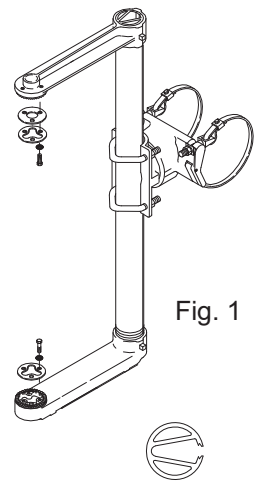

Fig. 1
1. **ADJUSTABILITY:** The bracket shall be completely adjustable such that it combines all four (4) of the adjustments indicated above as A through D.
3. **SIGNAL ACCOMMODATIONS:** The bracket shall attach to the signal in a clamping manner holding the signal both top and bottom in order to assure maximum rigidity. A standard bracket (Figure 1) shall accommodate all major signal manufacturer's signals from a three (3) Section 1-Way (inline) 8" and 12" Signal through a five (5) Section 1-Way 12" Signal and any combination thereof including 3M and ICC configurations.